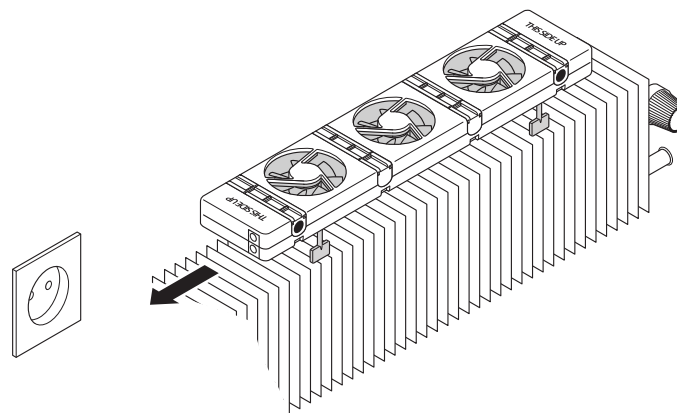

Fig. 9 – Placing the SpeedComfort (A) on the convector.
2. Ensure that the **SpeedComfort** (A) is facing upwards and that the female connectors (1) are pointing towards the socket (see Fig. 9).
3. Place the **SpeedComfort** (A) on top of the convector, leaving space between the sides of the convector and the **SpeedComfort** (A) to reduce noise (see Fig. 9).